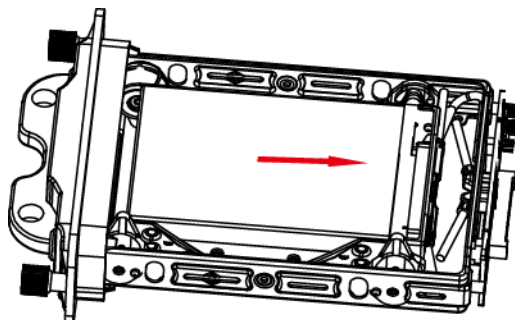

Figure 2-6 Push HDD
Step 6 Push the HDD along the direction shown in Figure 2-6 to connect HDD with socket of dummy HDD.